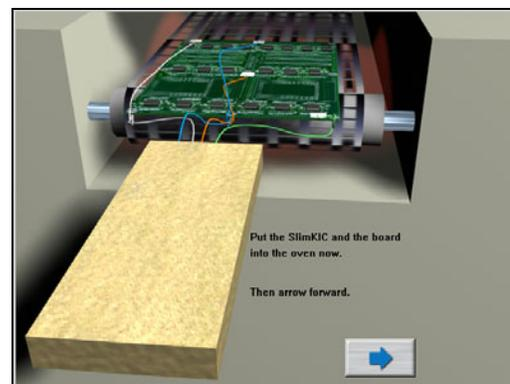

Figure 56
**If your answer is YES** it will prompt you to place the *KIC Profiler and profile board* into the oven. See Figure 56.